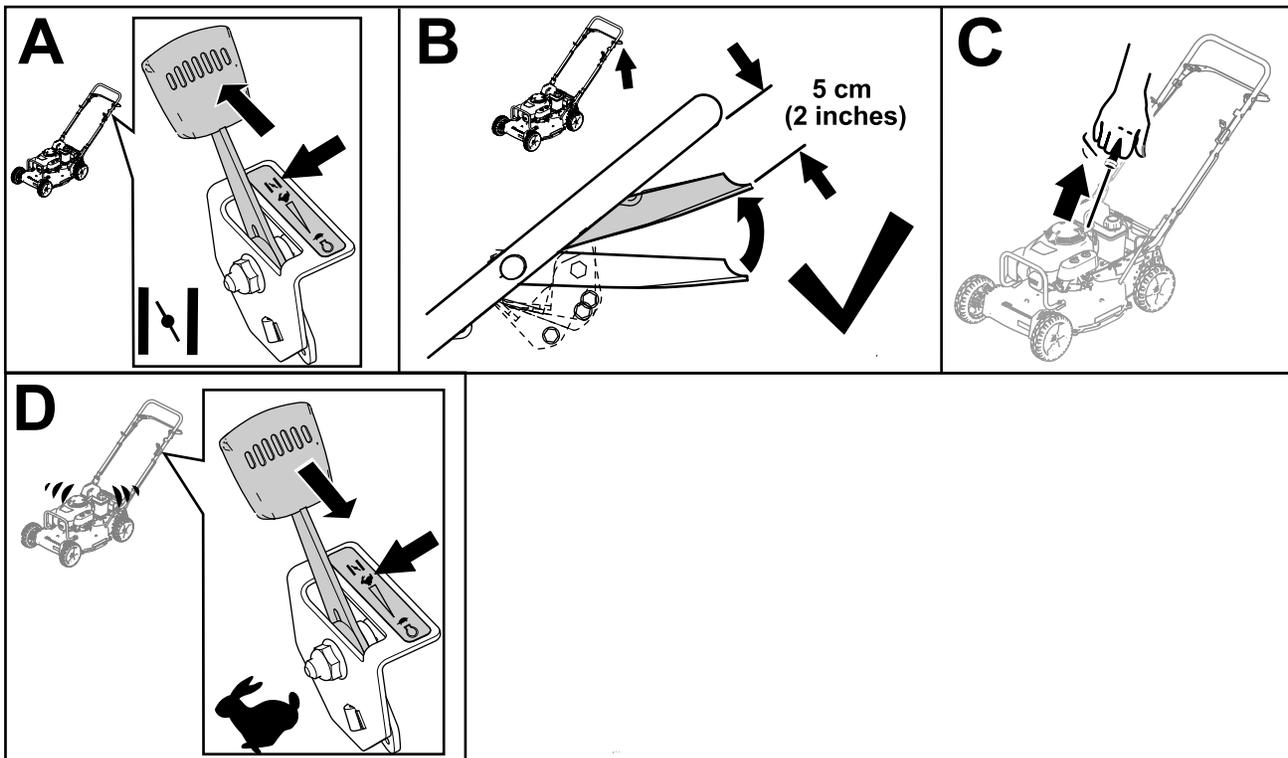

Figure 15
3. Move the throttle-control lever to the CHOKE position (A of Figure 15).
4. Hold the blade-control bar in the Run/Shift position, about 5 cm (2 inches) below the handle (B of Figure 15).
5. Pull the recoil-start handle lightly until you feel resistance, then pull it sharply (C of Figure 15).
6. When the engine starts, move the throttle-control lever to the FAST position (D of Figure 15).
**Note:** Close the fuel valve by moving the fuel-valve lever (Figure 15) to the **left** if you will not be starting the engine soon afterward.